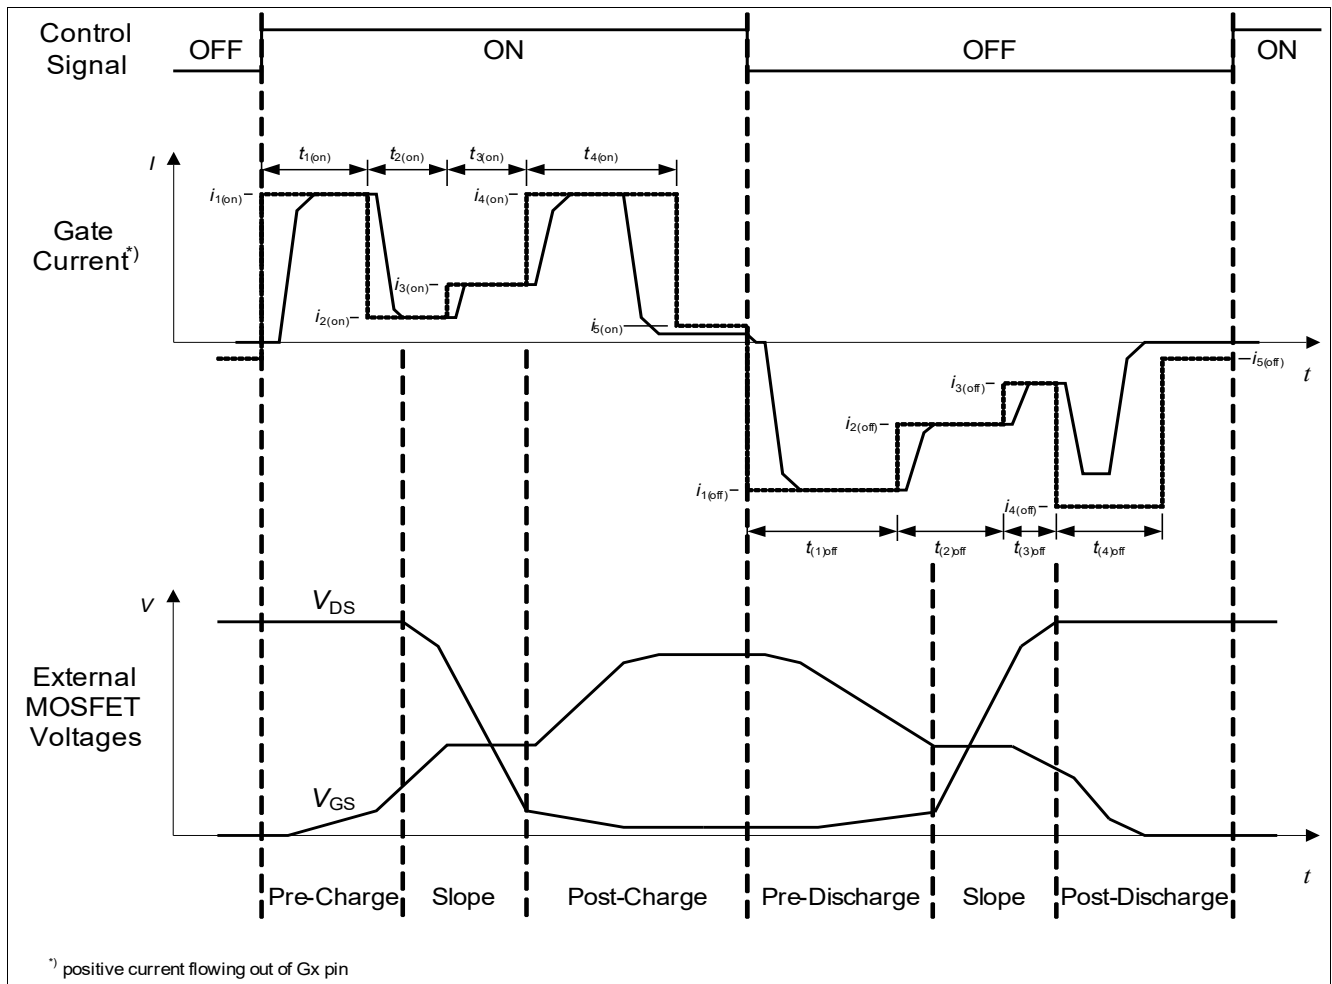

Figure 37 Gate current set point values generated by the sequencer
- In sequencer mode an advanced gate current profile is defined by SFRs where the gate charging phase and the gate discharging phase each are split into consecutive sub phases with individual current set point values and duration values (see **Figure 37**):